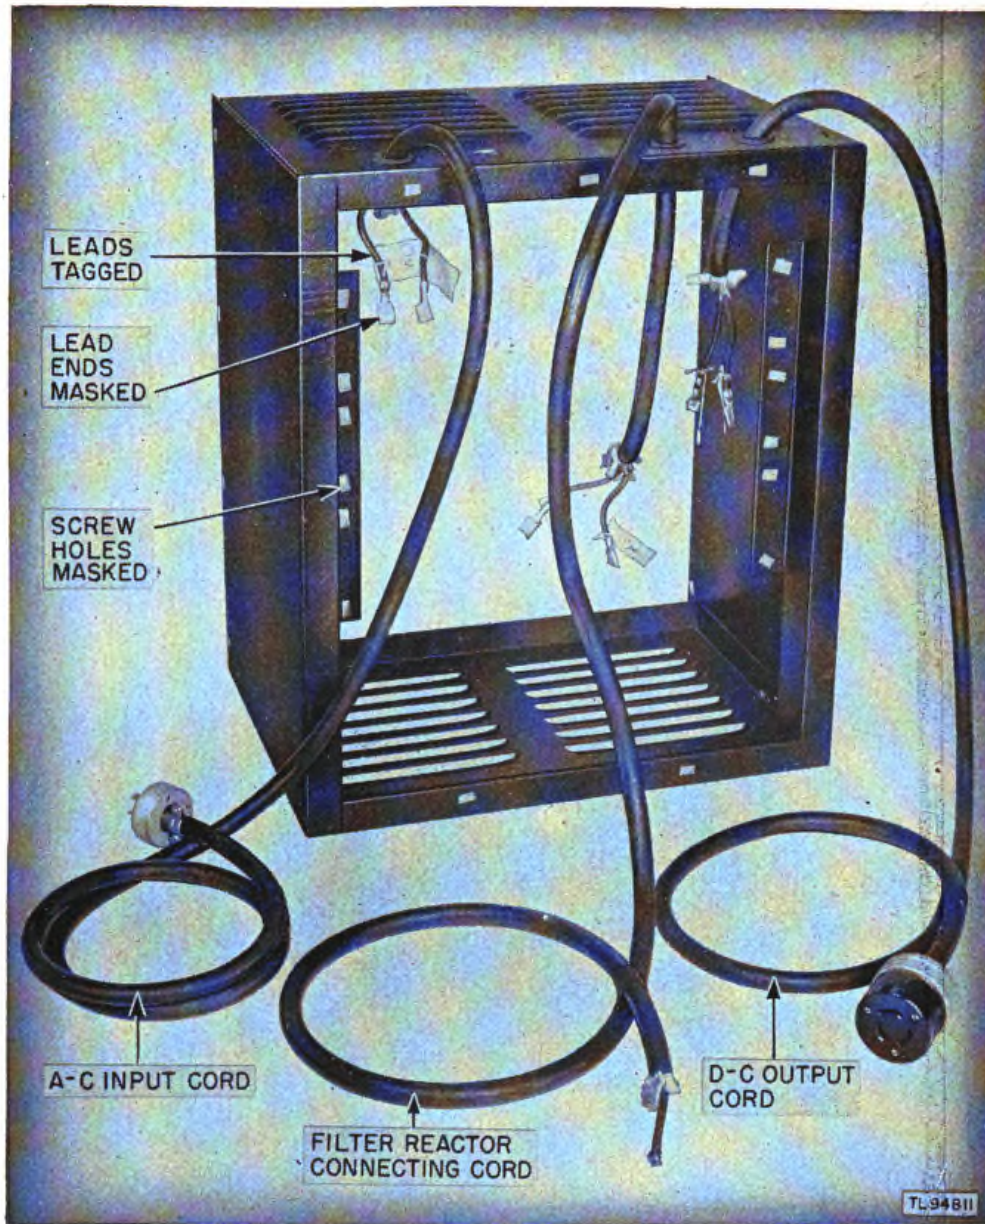

Figure 15. Rectifier RA-36-N, masking, cabinet and cords.
(7) Mask the terminal lugs on the a-c and d-c power cords, and reactor cord. (See fig. 15.)
(9) Cover all exposed screw holes in the case, panels, and chassis with masking tape. (See fig. 15.)